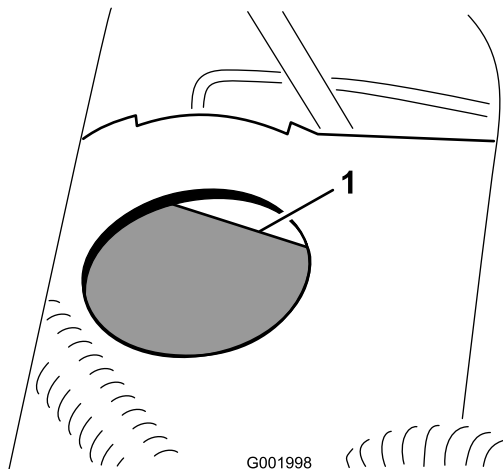

Figure 61
2. The fluid level should be up to the Full line on the reservoir (Figure 61).